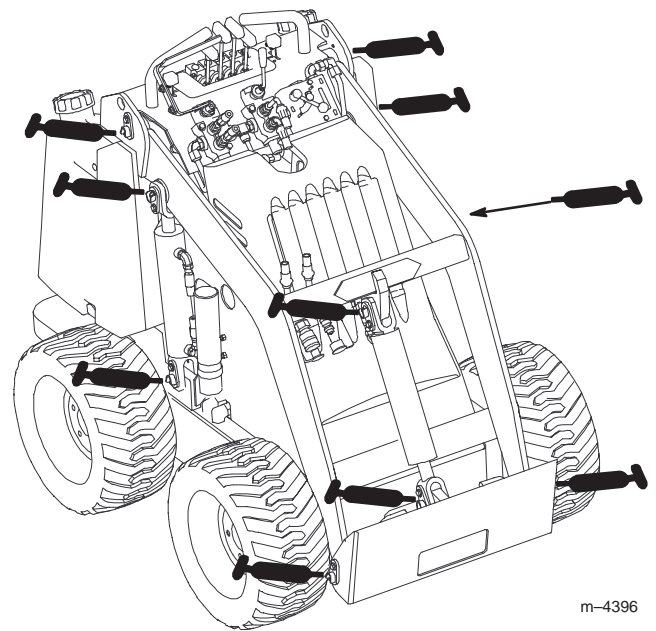

Figure 19
3. Connect a grease gun to each fitting (Fig. 19 and 20).